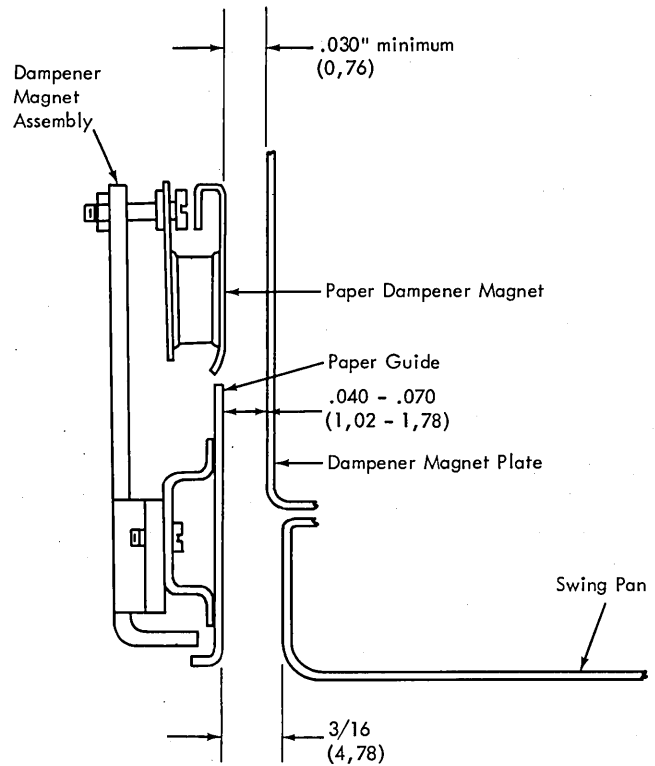

Figure 4-42. Electromagnetic Acoustical Dampener Adjustments
1. Locate the swing pan $3/16 \pm 1/32$ in. ($4,78 \pm 0,79$ mm) from the fixed paper guide on the paper dampener assembly (Figure 4-42) when the T-casting is latched closed.